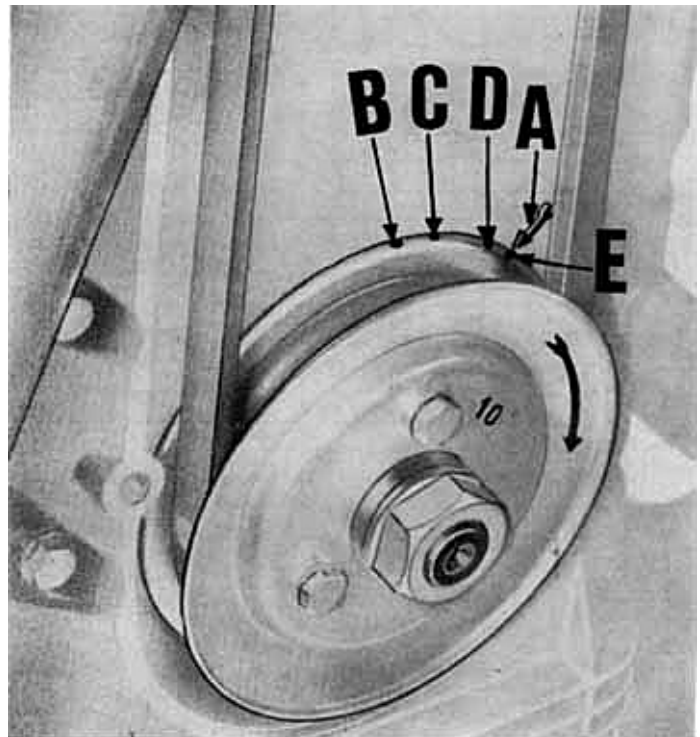

Fig. 26
Ensure the left cylinder (2) is on its compression stroke i.e. with both valves closed. Rotate the generator pulley on the crankshaft till the slot (fig. 26) is opposite mark «A» traced on the timing cover.
The new reference marks on the pulley (fig. 26 and diagram 27) can be defined as follows :